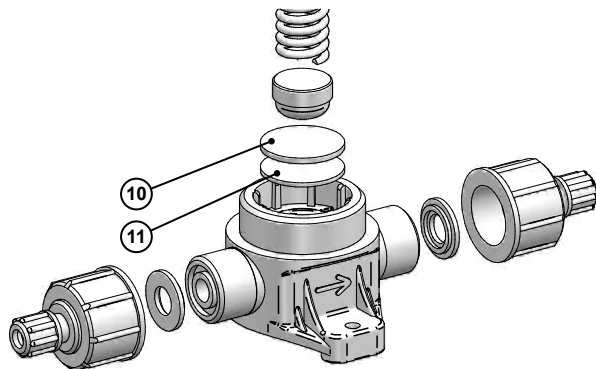

Fig. 15: Exploded view of back-pressure and pressure relief valves DN6 with diaphragms made of EPDM-PTFE
2. Unscrew the pressure setting screw (2) from the valve cap (4).
3. Loosen the union nut (1).
5. Remove the diaphragm (8), spring plate (7), compression spring (6) and washer (5). Back-pressure and pressure relief valves with diaphragms made of FPM (Viton) and EPDM contain one diaphragm. Back-pressure and pressure relief valves DN6 with diaphragms made of EPDM-PTFE contain two diaphragms (10 and 11. Fig. 15).